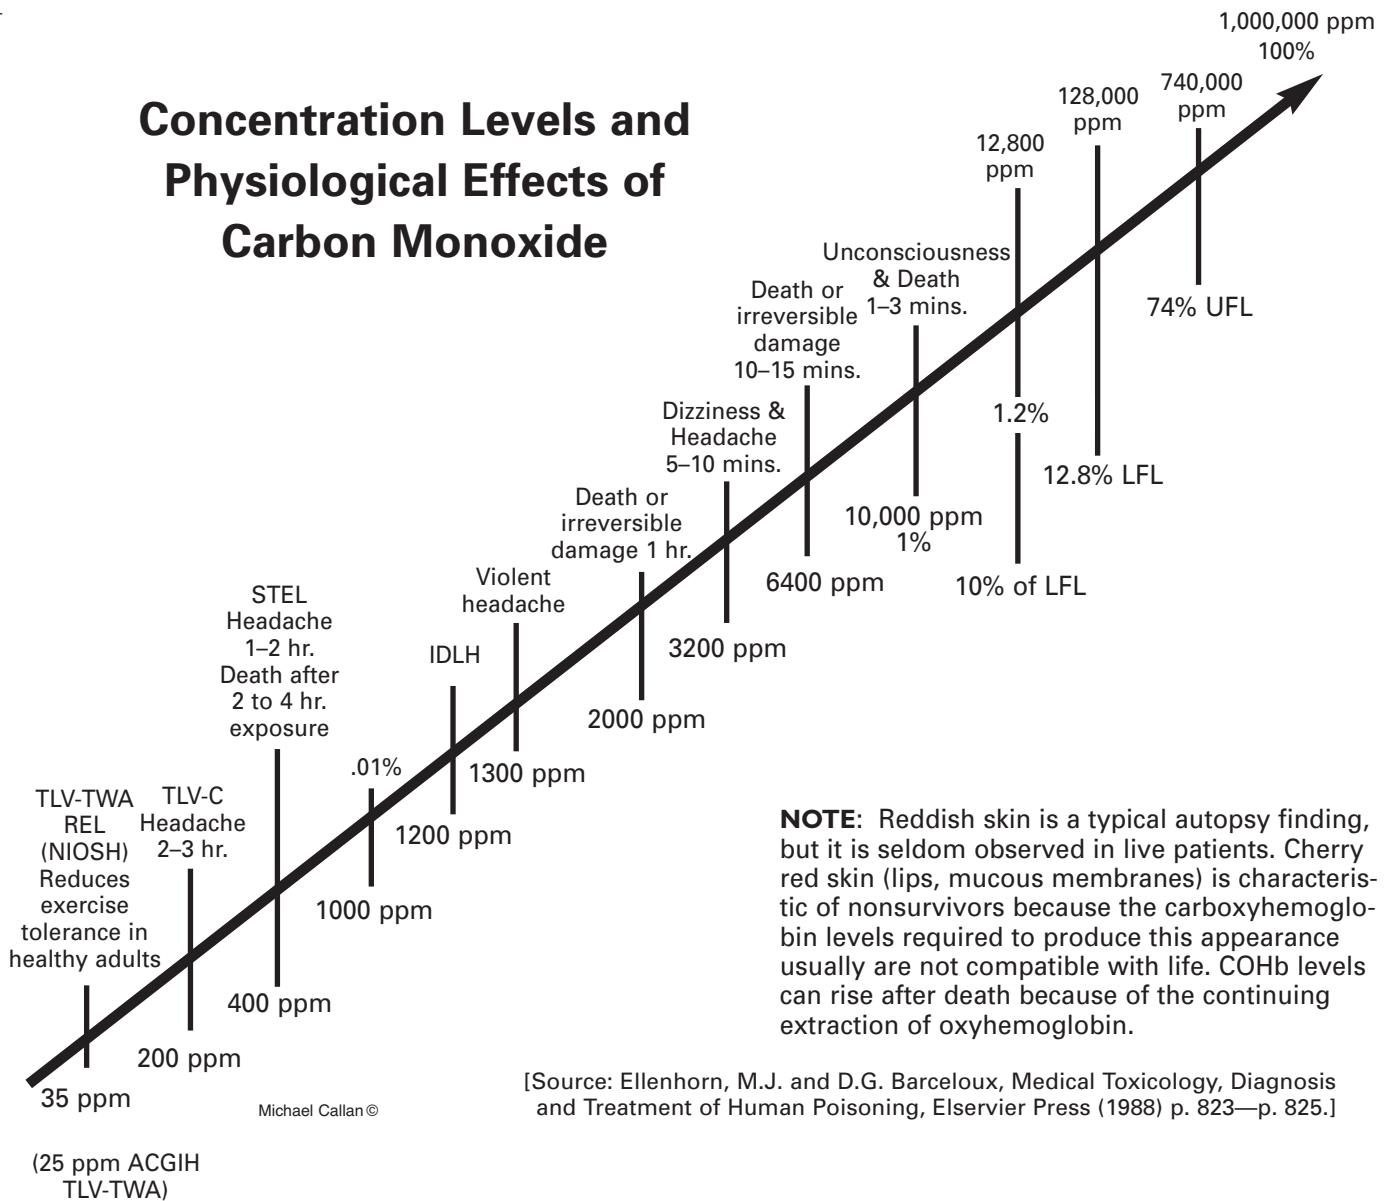

FIGURE 8-10 Concentration levels and physiological effects of carbon monoxide.
- According to NIOSH, the maximum allowable concentration for continuous exposure to carbon monoxide in any 8-hour period (TLV-TWA) is 35 ppm (0.0035%). At 1,200 ppm, carbon monoxide is considered Immediately Dangerous to Life and Health (IDLH). At 800 ppm, the initial reading used in this scenario, a person would experience a headache in 10 minutes after exposure and death in 40 to 45 minutes. See Figure 8-10. [Source UL-2034, Page A19, Figure 38.1]
- It is important to note that carbon monoxide is flammable and has a wide explosive range! The Lower Flammable Limit for CO is 12.8% (128,000 ppm) and the Upper Flammable Limit is 74% (740,000 ppm). Note in Figure 8-10 that a CO reading of 10,000 ppm would be 1% of the atmosphere or 7.8% of the Lower Flammable Limit; this would be within the safety limit for conducting a rescue in an indoor area using full protective clothing and SCBA.